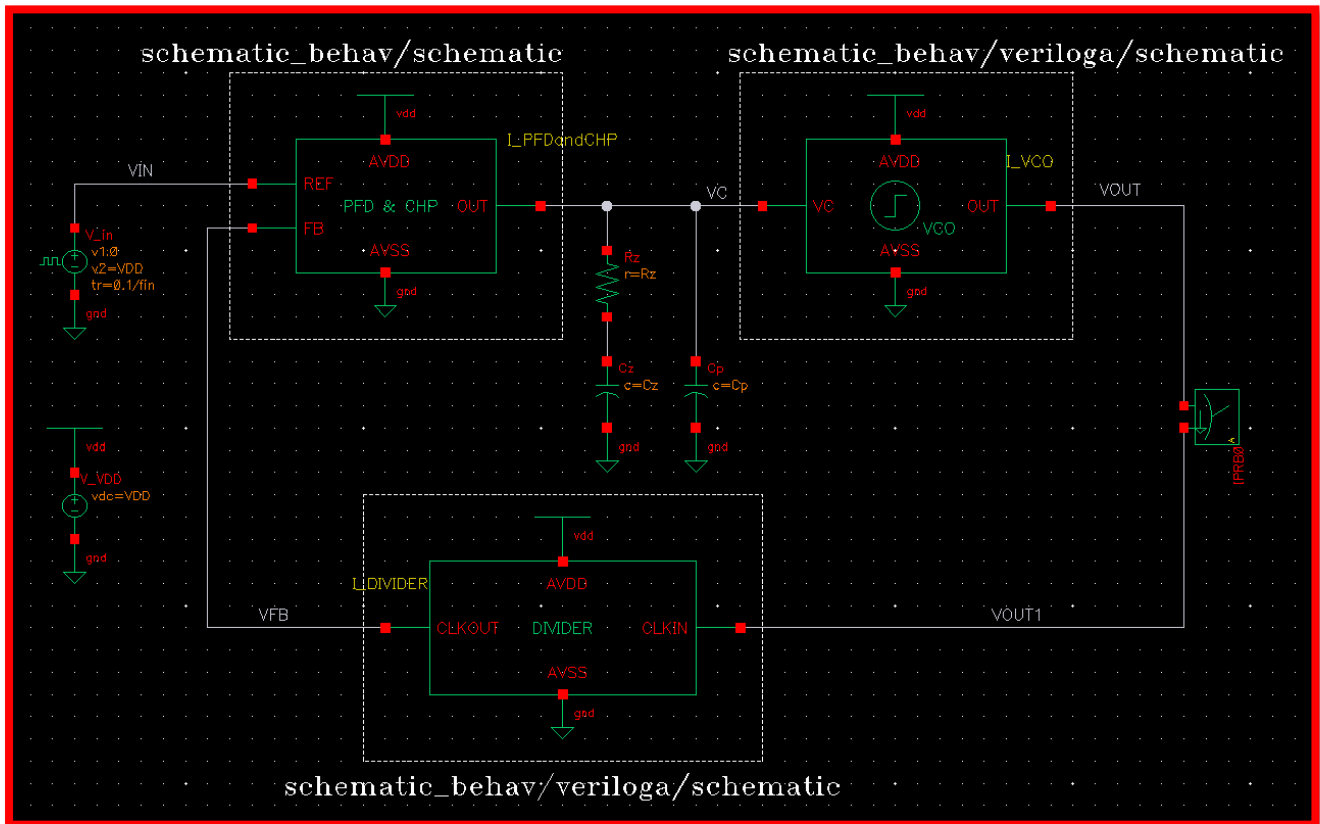

Figure 1: Main PLL TB
- Draw TB schematic as in Figure 1: Main PLL TB.